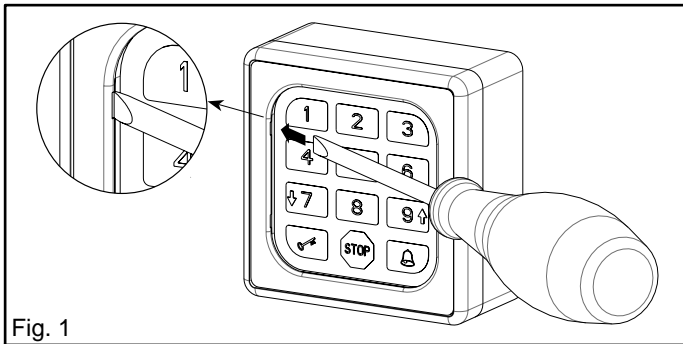
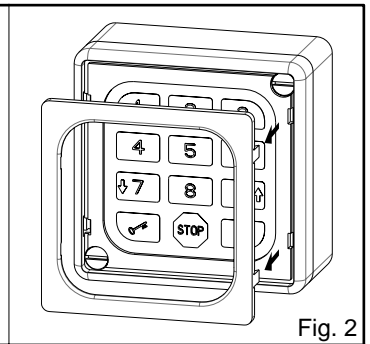

Fig. 1
Fig. 2
- Remove the screw cover (fig. 2) with a screwdriver (fig. 1);